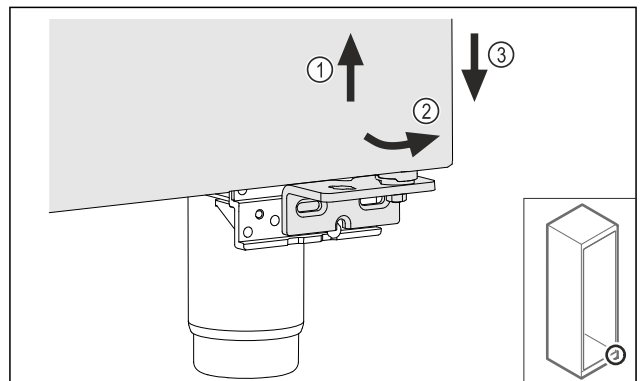

Fig. 26
- ▶ Lift the door slightly Fig. 26 (1), tilt it forwards at the bottom Fig. 26 (2) and lower it Fig. 26 (3).